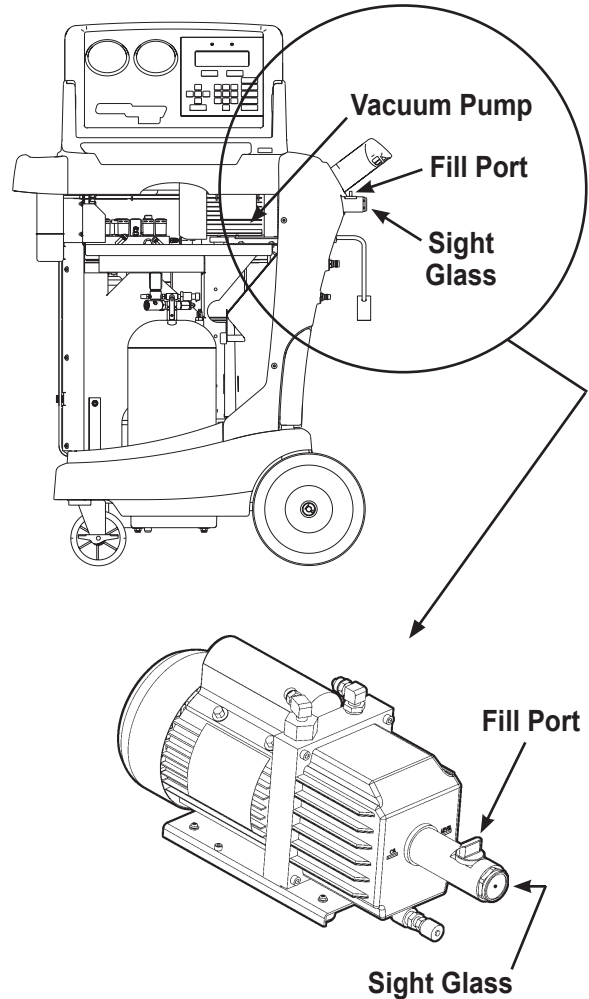

Figure 3
1. Remove the brass plug from the vacuum pump oil fill port. See Figure 3.
2. Attach the flexible tube/cap to the oil bottle; pour **only** five (5) ounces of vacuum pump oil into the fill port.